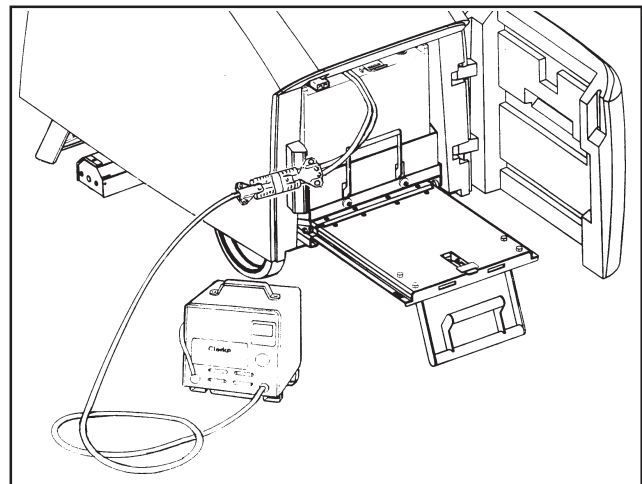

Figure 14
4. Connect the DC connector on the charger to the battery pack connector. See figure 14.